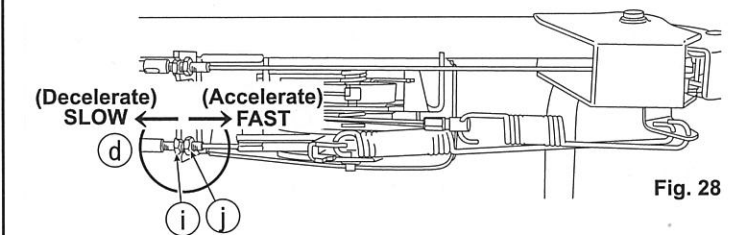

Fig. 28
1. When adjustment is necessary, loosen the lock nut (j) of the HST speed control cable (d), and then turn the adjuster (i) as shown in Fig. 28.
3. Start the engine and confirm that running speed changes when Gearshift lever (D) is operated.